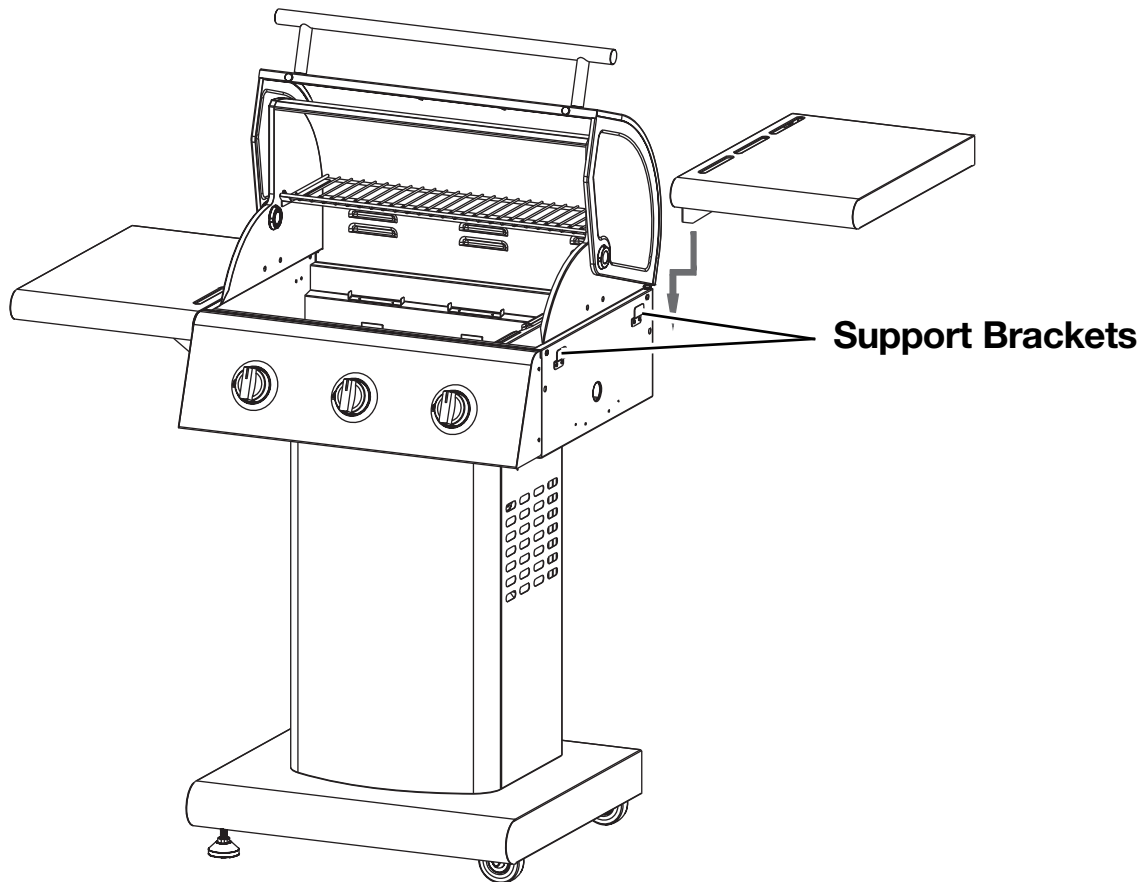

Fig. 5a
1. Locate side shelf onto support brackets located on side of the fire box as shown in **Fig. 5a** and remove the cooking grids from the firebox.